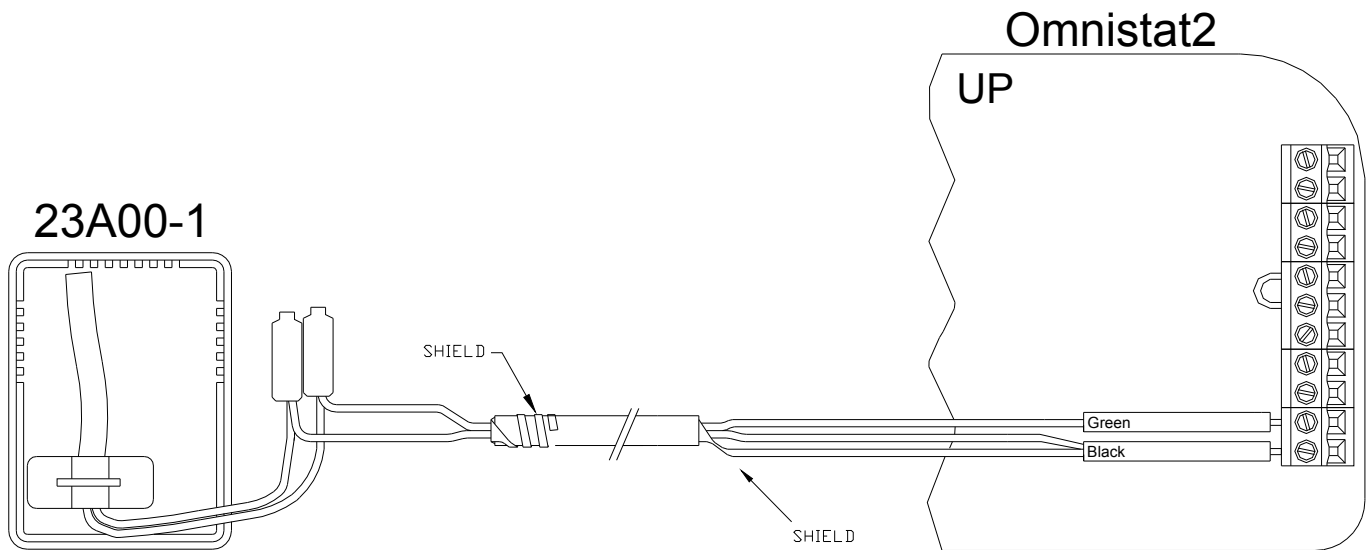

FIGURE 1
6. At the Omnistat2 location, make the connections to the Green and Black terminals under the section marked "Remote Temp Sensor" on the right terminal strip. Note that the shield and one of the wires from the remote temperature sensor are tied together and get connected to the Black terminal – See Figure 1.